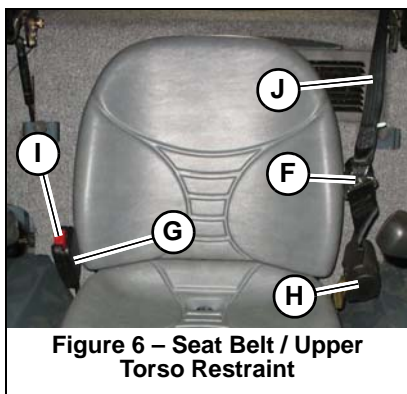

Figure 6 – Seat Belt / Upper Torso Restraint
Fasten the seat belt around your hips and waist and insert tongue (F, Figure 6) into clasp (G) until it clicks securely in place. Slack in the seat belt should automatically retract into seat belt spool (H).
Always wear the upper-torso restraint (J, Figure 6) when operating in high speed.